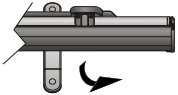

Figure 16
2. Rotate the feet in line with the casing. Retraction is completed ( Figure 16 - 18 ).